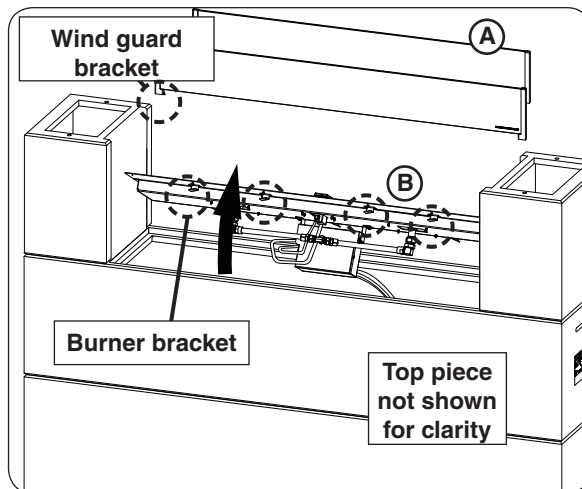

Fig. 34-1 Remove wind guard, then burner assy
1. Remove the wind guard panels from the burner. Use a $\frac{5}{16}$ " nut driver to unfasten the four screws found on the burner assembly. See Fig. 34-1, A.
2. Use a $\frac{5}{16}$ " nut driver to partially unfasten the eight screws found on the burner assembly. Then remove the burner and set it off to the side. See Fig. 34-1, B.